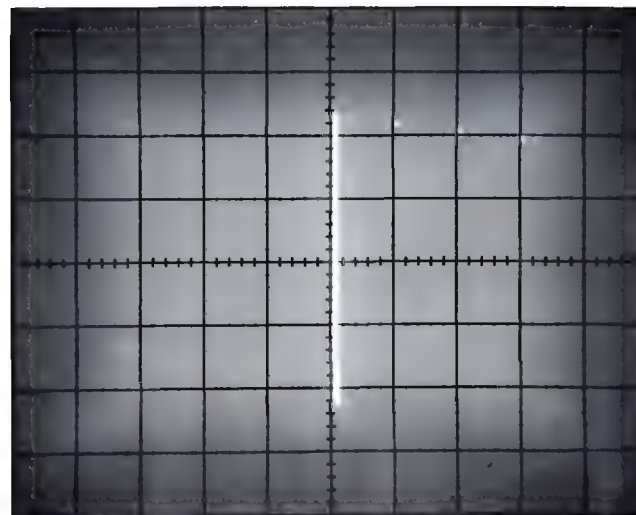

Fig. 5-10. Typical display illustrating step r.
r. CHECK—The display should resemble Fig. 5-10 or inverted from top to bottom.